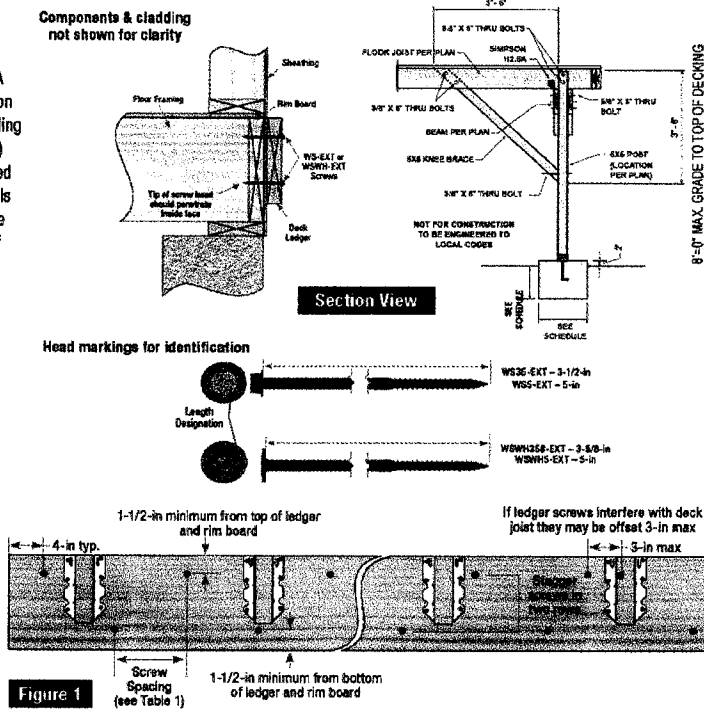

Figure 1
4. Repeat these steps and install the appropriate number of screws at the prescribed edge, end distance, and spacing as called out in Table 1 and Figure 1.